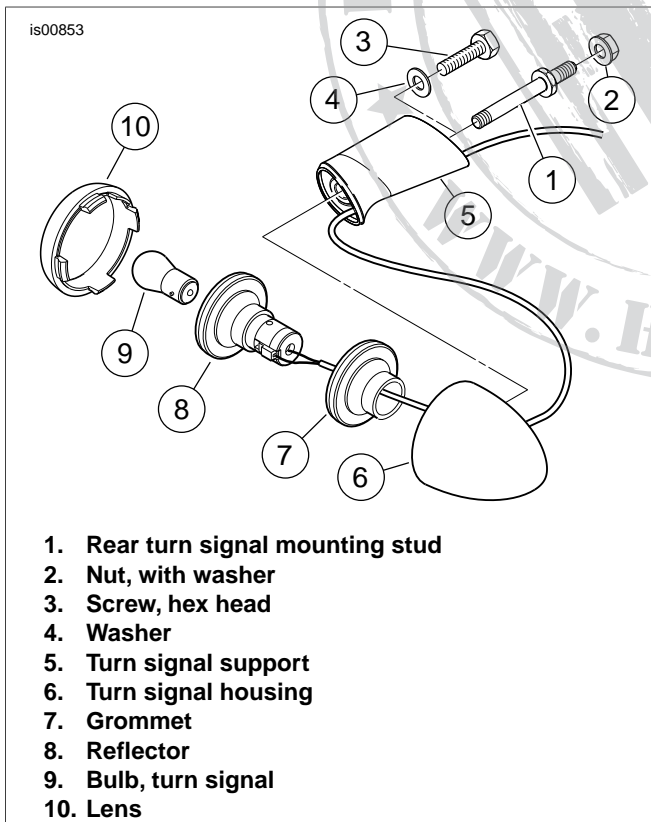

Figure 3. Rear Turn Signal Components
9. Remove the turn signals and supports from the rear fender. See Figure 3.
- See Figure 3. Insert the wires from the turn signal reflector (8) through the grommet (7), and